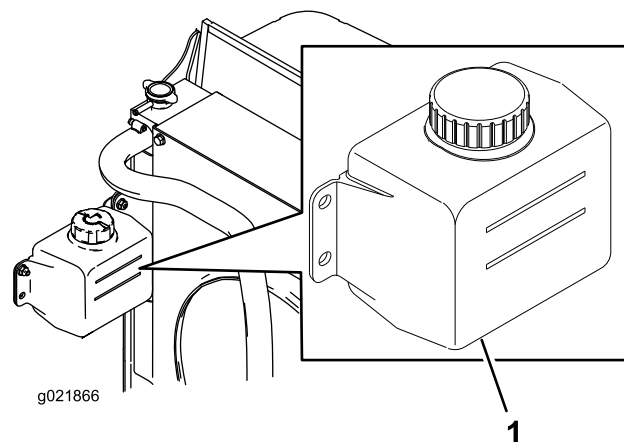

Figure 16
1. Check the level of coolant in the expansion tank (Figure 16).